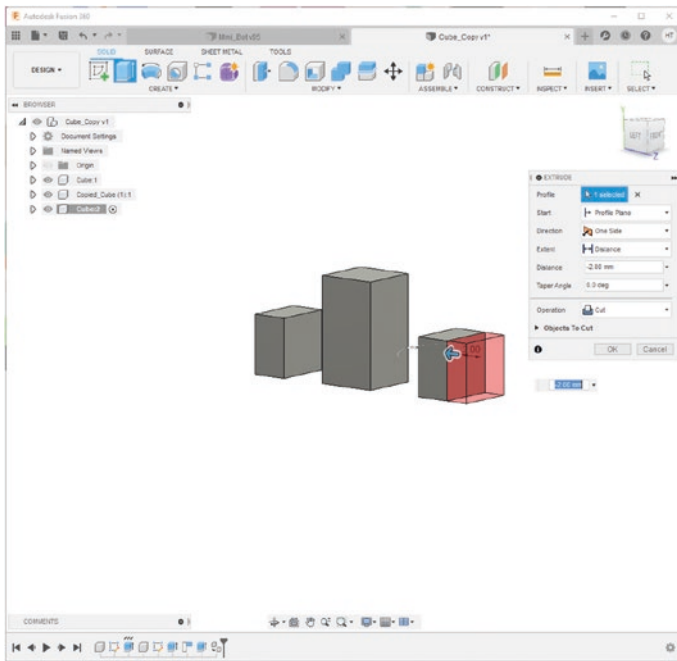

Figure 8-7. *If you just paste a component, both components will share dimensions*
7. If you do want all of the components to match, then all you need to do is select “Paste” instead of Paste New.” See Figure 8-7.